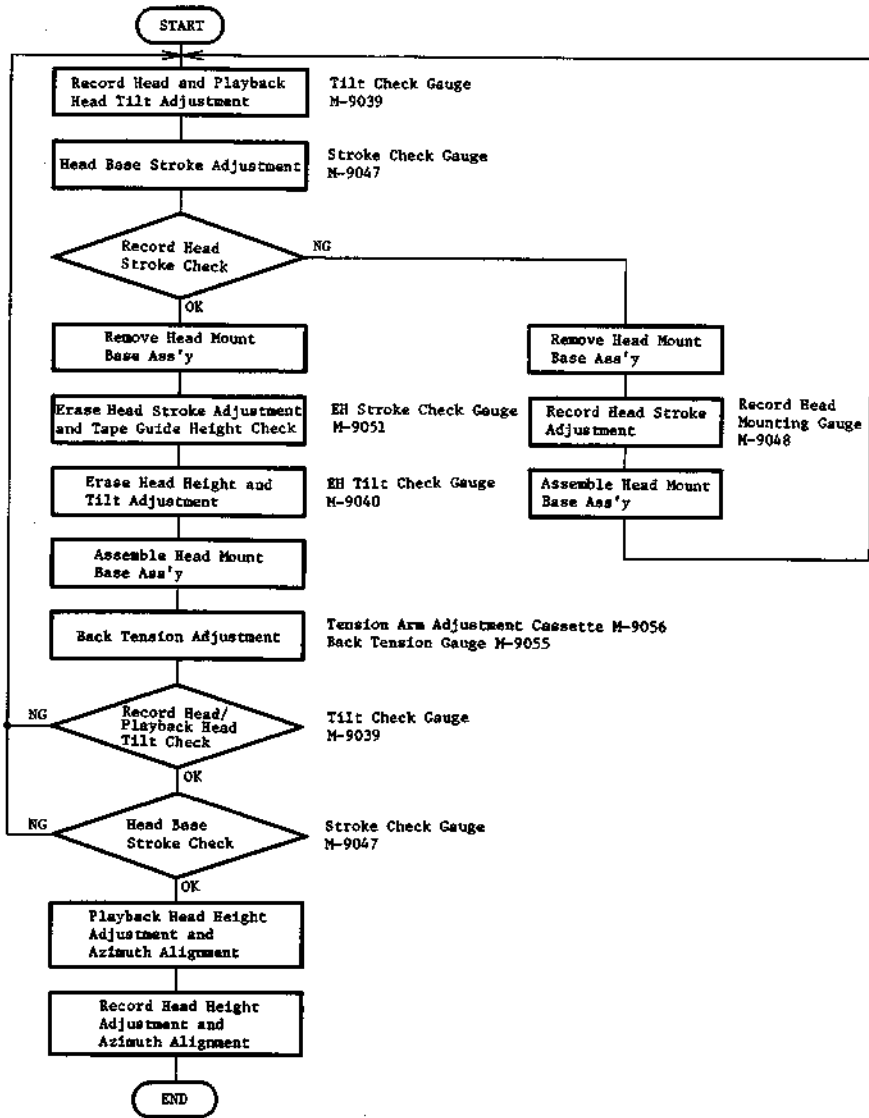
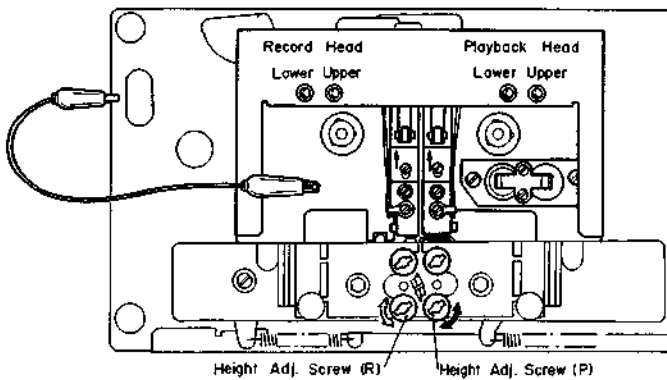

Fig. 4.4
Fig. 4.5
Note: On items 4.3 - 4.9, refer to Fig. 4.4 flow chart. Refer to Figs. 4.5 and 4.6.
- Beacon Playback Head "Lower" will light on when height adjustment screw (P) turned clockwise but Playback Head "Upper" when counterclockwise. Adjust so that both "Upper" and "Lower" will light on even when you move the slide knob to the direction of an arrow mark and then return them to the original place.
- Same procedures will apply to the Beacons Record Head "Upper" and "Lower", except for the height adjustment screw (R).
- Set the ZX-7 in Stop mode and fit both of the serrated Height Gears. Then set the ZX-7 again in Play mode and insure all of the 4 Beacons are illuminating. If not, (3) through (7) will have to be repeated till satisfactory results are obtained.